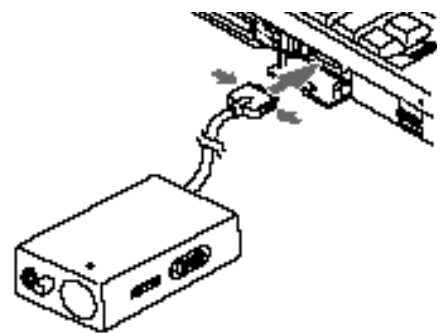

Figure 4-5 Installing the MediaConnect
- 3. Slide the Battery Eject button on the left side of the notebook toward the bottom of the notebook. (Figure 4-5.)**
2. **Align the connector of the MediaConnect with the connector towards your notebook and with the wide side up.** (See Figure 4-5.)